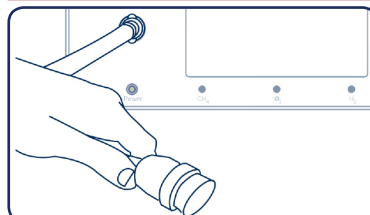

fig.7
3. To perform a real time breath test, attach the sampling line into the docking port on the monitor, and push the mouthpiece into the soft silicone adapter on the sampling line. (fig. 7)